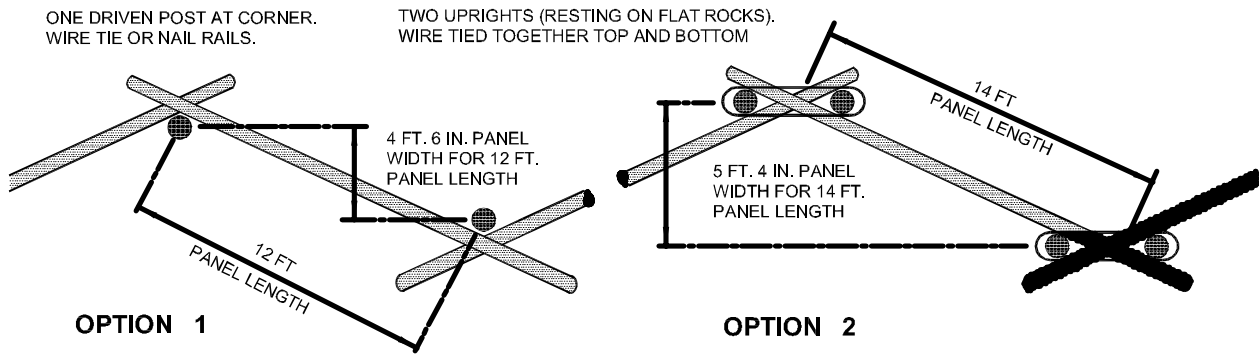

Figure 3 Reduced Panel Width Snake Rail Fences
* Panel width = panel length ÷ 2 (i.e., 12 ft panel length: 12 ÷ 2 = 6 ft panel width). Or refer to Figure 3, below.